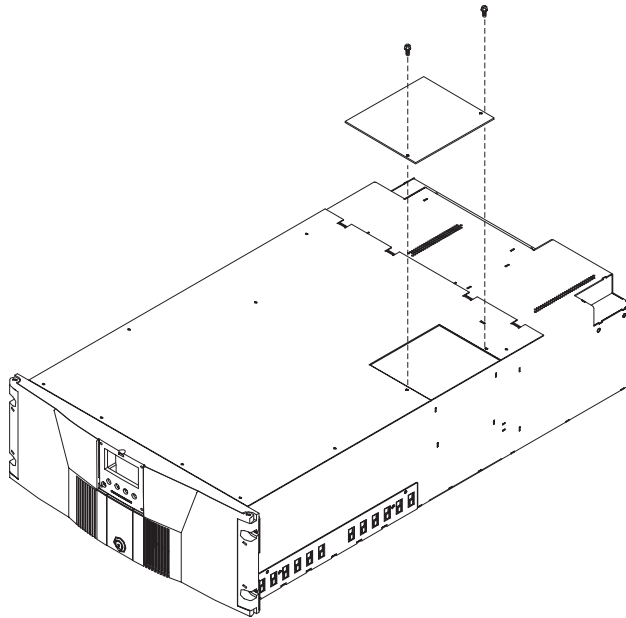

Figure 13. Pass-through cover plate
1. Remove the pass-through cover plates. See Figure 13 to determine which pass-through plates you must remove.